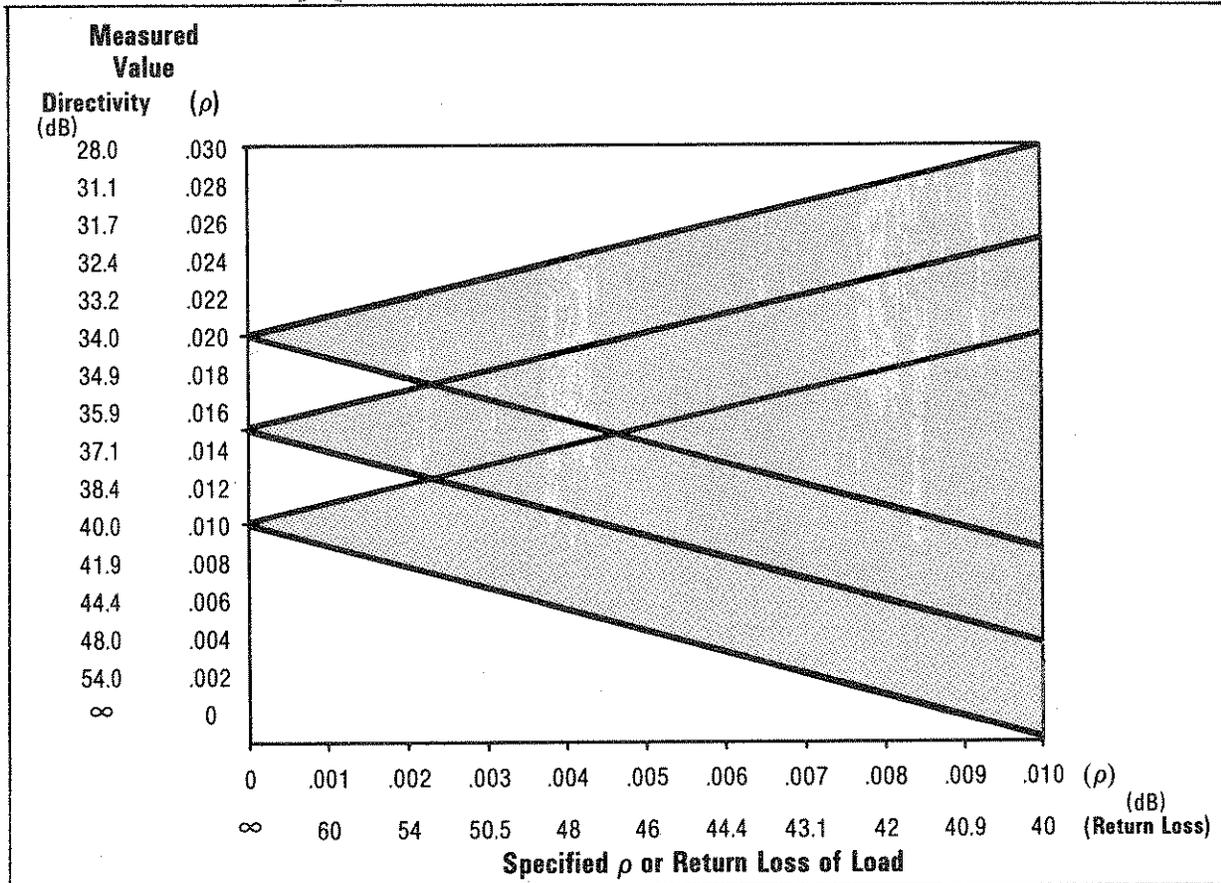

Figure 4-2. Probable Range of Measurable Directivity Values
5. Attach the fixed load to the TEST port of the 85021A/B/C. On the 8756A, press **[SHIFT] [SCALE]** for the AUTOSCALE function, then press **[CURSOR] [CURSOR MAX 1]** to find the point of minimum return loss (the high point on the trace). Record the displayed CURSOR value on the Performance Test Record, Table 4-1. This value represents the scalar sum of directivity signals (desired measurement) plus reflected signals from the fixed load (undesired error). Thus, fixed load quality directly affects the quality of directivity measurements. Refer to Figure 4-2. The shaded areas in this figure indicate the probable range of measurable values for each specified
14. The quality of the sliding load directly affects the quality of the directivity measurements. Although the signal separation technique above removes reflections of the load itself, the mismatch of the sliding load connector and airline introduces reflections and uncertainties. To estimate these uncertainties, refer to Figure 4-2. Locate the specified return loss of the sliding load airline and connector on the horizontal axis (convert from SWR). Move up from this point to the upper limit of the shaded area between the diagonal lines. This value is the upper limit of the Bridge specified directivity corresponding to the sliding load's return loss